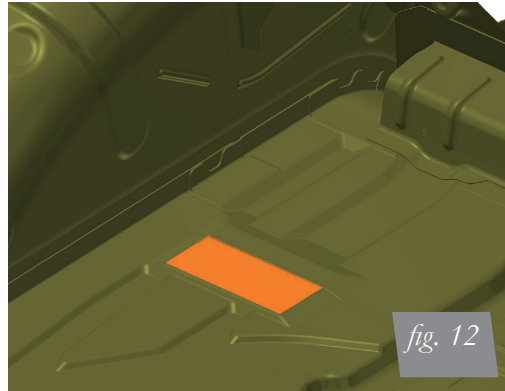

fig. 12
1. Remove the carpeted floor and side panels within the trunk. While looking at the trunk floor, notice the rectangular protrusion on each side of the trunk, close to the wheel wells (fig. 12).